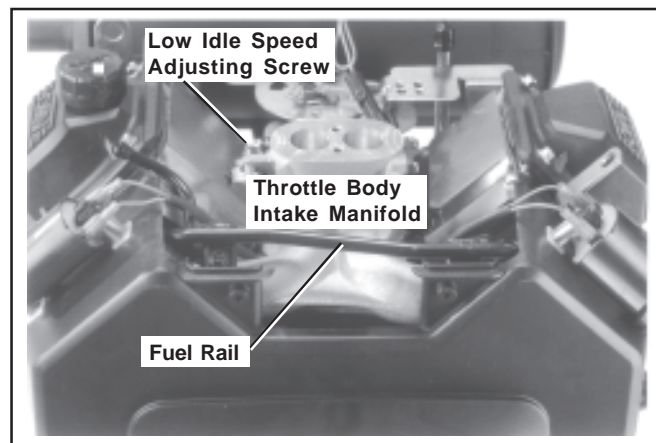

Figure 14.
3. Turn the low idle speed adjusting screw in or out and check RPM with a tachometer. See Figure 14.